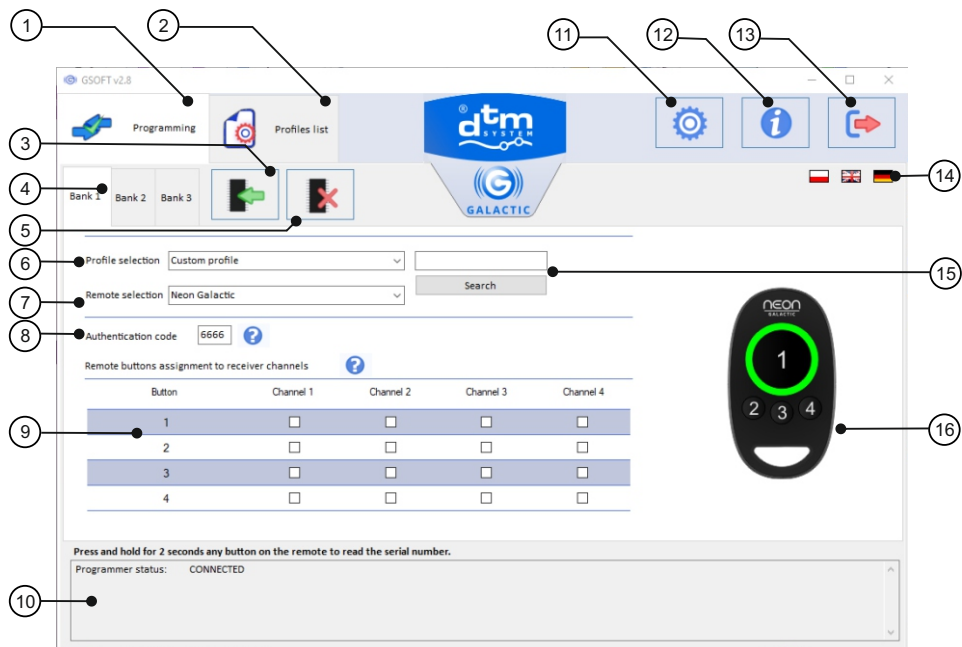

Fig. 4 View of GSOFT programme main window with function description.
To programme the remote it is necessary to enter appropriate **data: authentication code** which consists of four alphabetical and numerical signs 0-9 and A-F and **connections of remote buttons and receiver channels**. Data should be entered in the main window of application (fig.4 pt 8 and 9).
If the user is not in the main window it is necessary to choose "Programming" (fig.4 pt 1). Remote control with Galactic function gives the possibility to sign in the memory from one to three authentication codes together with configuration of buttons and channels connections. The choice of appropriate bank enables data edition. Bank 1 is the basic bank and it is always sent to the remote. Bank2 and Bank3 are optional. Bank2 and Bank3 edition is possible after marking the "Active Bank" choice field. When the fields of choice and edition are grey it means that there is no possibility to edit the data.
- 1 Go to adding and editing profiles window and click "Profiles list" icon (fig.4 pt 2).
1 Go to adding and editing profiles window by clicking "Profiles list" icon (fig.4 pt 2).